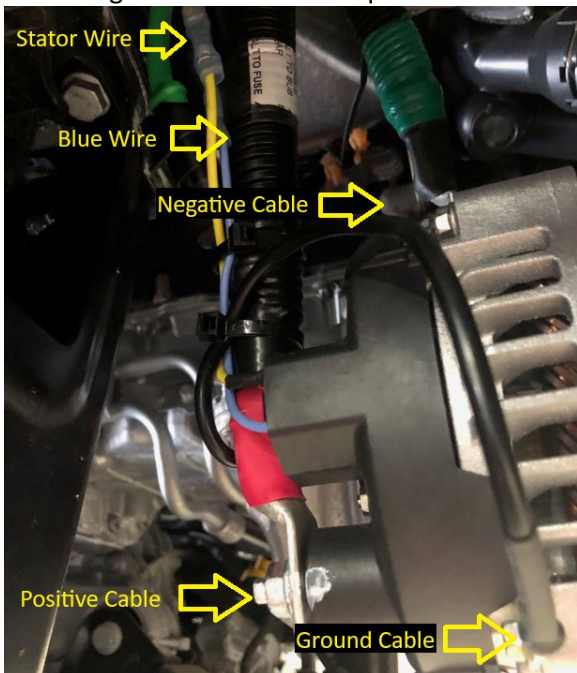

Figure 3
3. Install new secondary alternator with stator wire (5176949). Connect positive cable and torque to 18 ft-lbs. Connect negative cable and torque to 18 ft-lbs. Use a butt connector to connect blue wire. Locate yellow stator wire located in the Wakespeed harness and use butt connector to connect to yellow stator wire on alternator. Connect ground cable and torque to 30 ft-lbs. See Figure 3 for new secondary alternator diagram